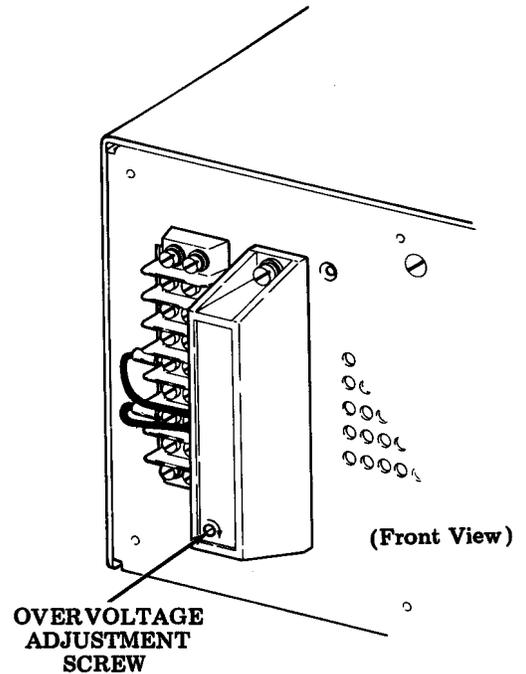

Fig. 65—Overvoltage Crowbar Assembly
Adjust overvoltage crowbar assembly, if provided, using the following procedure. See Fig. 65.
- (b) Connect a dc voltmeter according to (1) Output Voltage, (a).
- (c) With output voltage adjusted according to (1) Output Voltage, install overvoltage crowbar assembly onto power supply and connect it to respective voltage output terminals. See Fig. 65.
- (e) Using a small screwdriver, decrease voltage trip point (Fig. 65) on overvoltage crowbar until power supply output voltage on voltmeter fails. To decrease voltage trip point on units from Lambda, turn screw counterclockwise; on units from North Electric, turn screw clockwise.